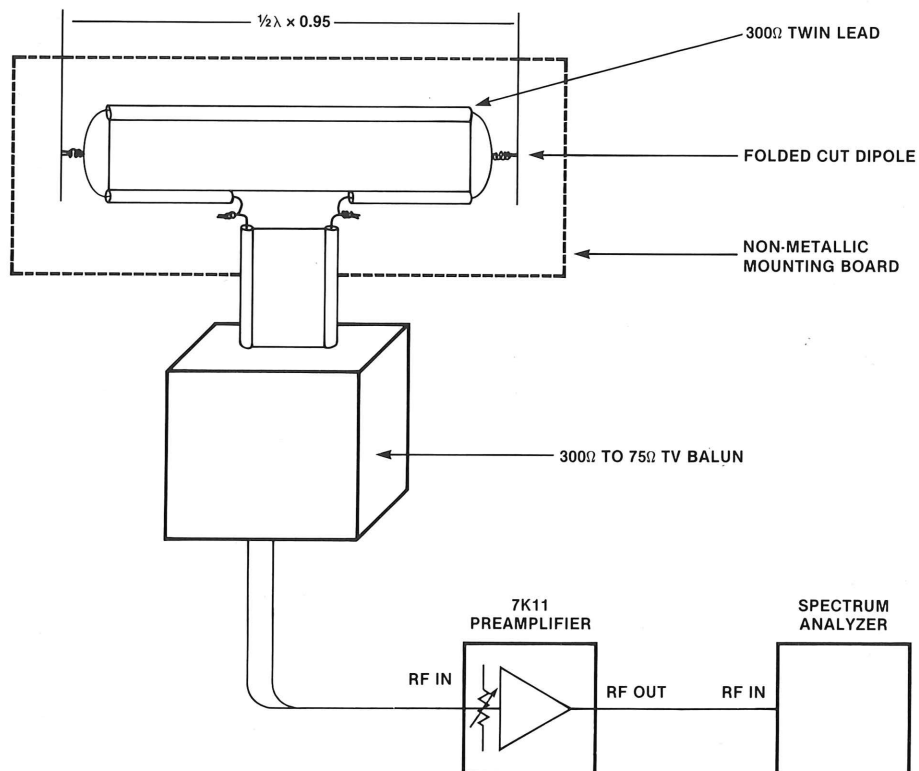
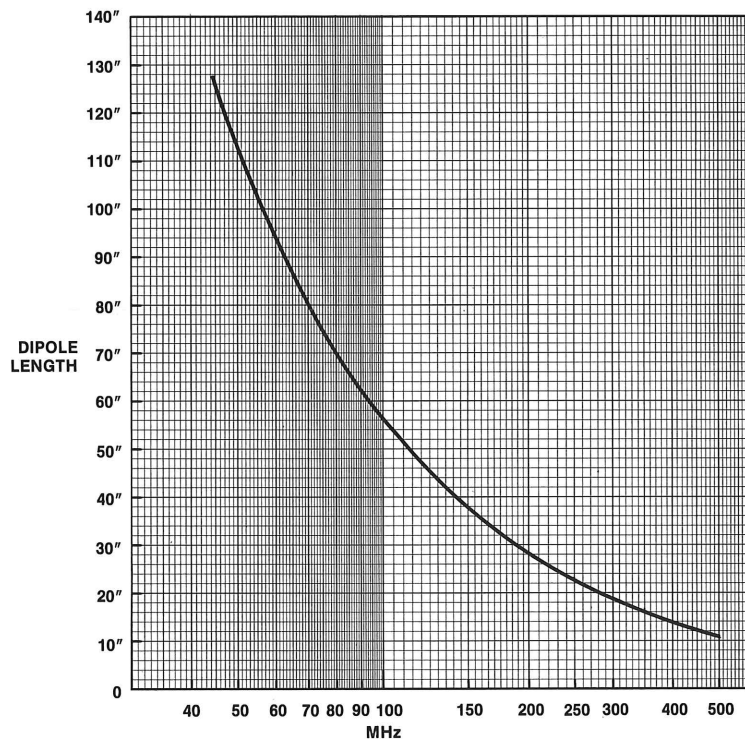

Figure 11-1. Details of homemade antenna and equipment connection for leakage measurements.
Figure 11-3. $\frac{1}{2}\lambda$ dipole length vs. frequency.
1. Set up the equipment as illustrated in figure 11-1.
1. Construction of homemade dipoles using 300 ohm TV twin lead is illustrated in figure 11-1. The length of the dipoles (in inches) for various frequencies are listed in figure 11-3. Each dipole should be mounted on its own (non-metallic) board as illustrated by dashed lines in figure 11-1. The loss of the balun is one half the loss of two baluns with their 300 ohm terminals connected together. Measure the loss of the cable by normal methods.